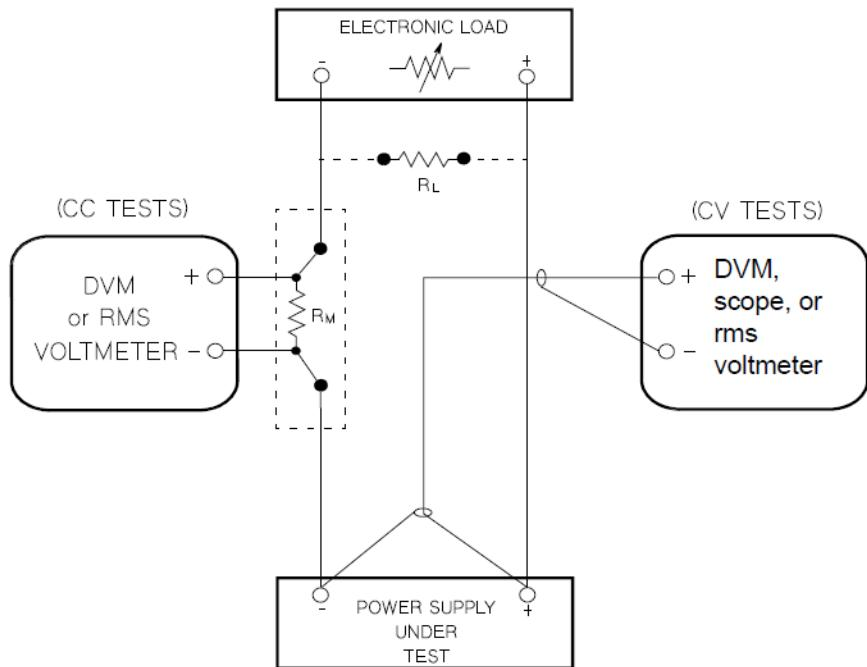
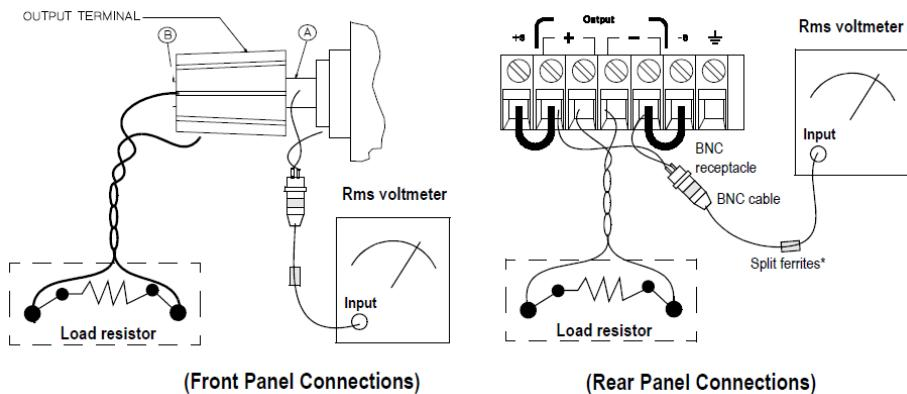

Figure 8-1 Performance verification test setup
Figure 8-3 Front/rear panel terminal connections for the Vrms measurement
Most tests are performed at the front terminals as shown in Figure 8-1. Measure the DC voltage directly at the (+) and (-) terminals on the front panel.
To eliminate the output current measurement error caused by the voltage drops in the leads and connections, connect the current-monitoring resistor between the (-) output terminal and the load as a four-terminal device. Connect the current-monitoring leads inside the load-lead connections directly at the monitoring points on the resistor element (refer to R_M in Figure 8-1).
- 1 Turn off the power supply and connect a digital voltmeter between the (+) and (-) terminals of the output to be tested as shown in Figure 8-1.
- 1 Turn off the power supply and connect a digital voltmeter between the (+) and (-) terminals of the output as shown in Figure 8-1.
For better measurement results, it is recommended to make the connection between the BNC receptacle and the output terminals as short as possible, and to use the recommended split ferrites with the BNC-to-BNC cable as shown in Figure 8-3.
- 1 Turn off the power supply and connect the output to be tested as shown in Figure 8-1 to an oscilloscope (AC-coupled) between the (+) and (-) terminals. Set the oscilloscope to the AC mode and bandwidth limit of 20 MHz. Connect a resistive load ($13.5\ \Omega$)^[1] to the terminal at (B) as shown in Figure 8-3.
- 5 Disconnect the oscilloscope and connect the AC rms voltmeter in its place according to the Vrms measurement techniques above and as shown in Figure 8-3. The rms voltage reading does not exceed the rms limit of 0.5 mV^[3] or 1 mV^[4].